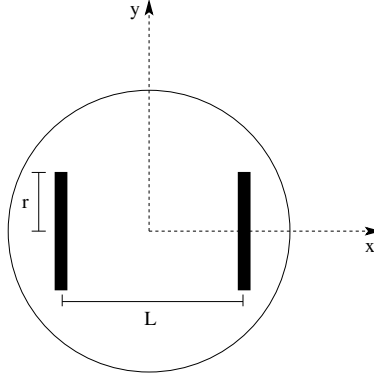

Figure 1: The Indoor Vacuum Robot
2. **(15 points)** Figure 1 shows an indoor vacuum robot has a differential drive chassis with two wheels, each with a radius of r , that are separated by a distance L .